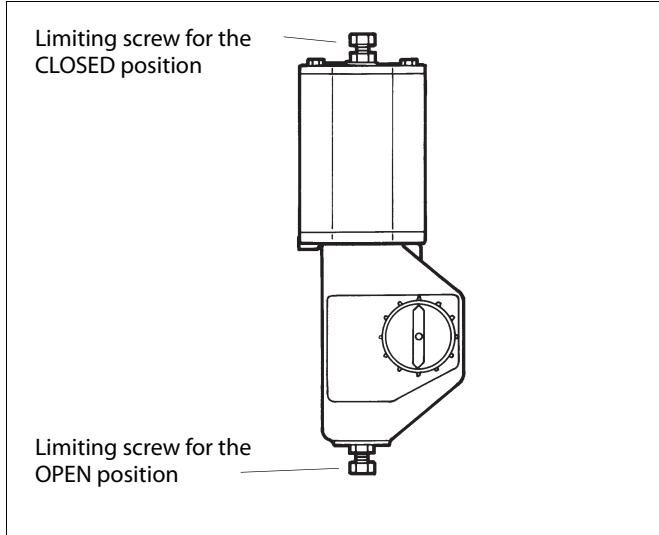

Fig. 25 Open and closed position in a B1 actuator
- Adjust the ball open and closed positions (limits to piston movement) by means of the actuator stop screws (see Fig. 25). An accurate open position can be seen in the body flow bore. Check that the yellow arrow indicates the direction of the ball flow bore.